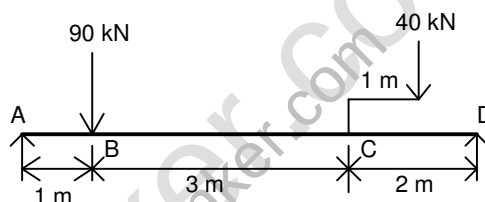

Fig. 3
6. Determine the deflection at the points B and C of the beam shown in Fig. 3. The flexural rigidity of the beam is  $90,000 \text{ kN-m}^2$ . Use double integration method. (15M)
6. Determine the deflection at the free end of the beam shown in Fig. 3 and the maximum deflection between A and B. Assume young's modulus of elasticity as 200 GPa and $I = 12 \times 10^6 \text{ mm}^4$. (15M)